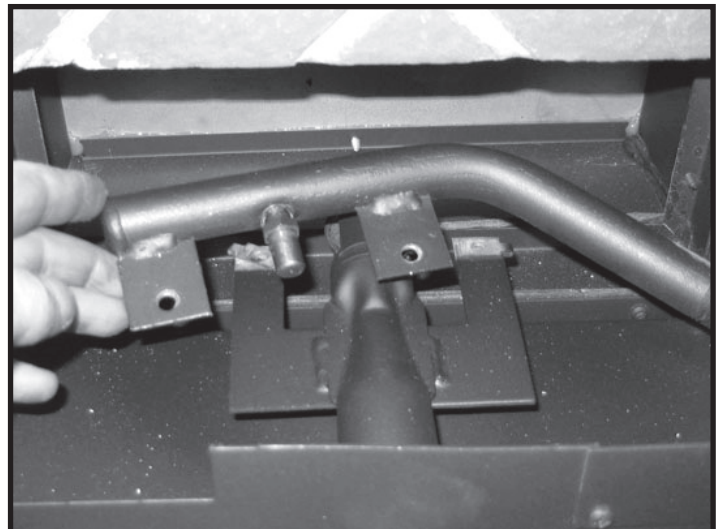

Figure 18: Orifice exposed.
3. Remove the manifold assembly from the burner (Figure 18).